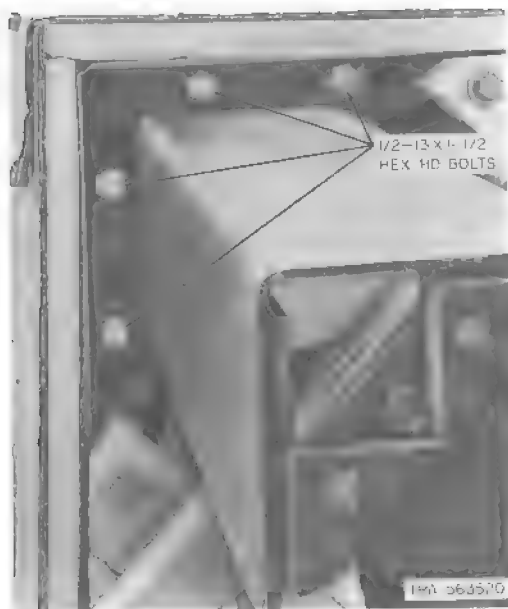

Fig. 19—Securing Leg to Kiosk Frame
- (4) Using eight 1/2-13 by 1-1/2 inch hex head bolts, secure the two List 13 leg assemblies to the kiosk (Fig. 19).
- (1) Repeat 3.06 (1) through (3).
- (2) Using eight 1/2-13 by 1-1/2 inch hex head bolts, secure the List 14 leg assembly to kiosk (Fig. 19).